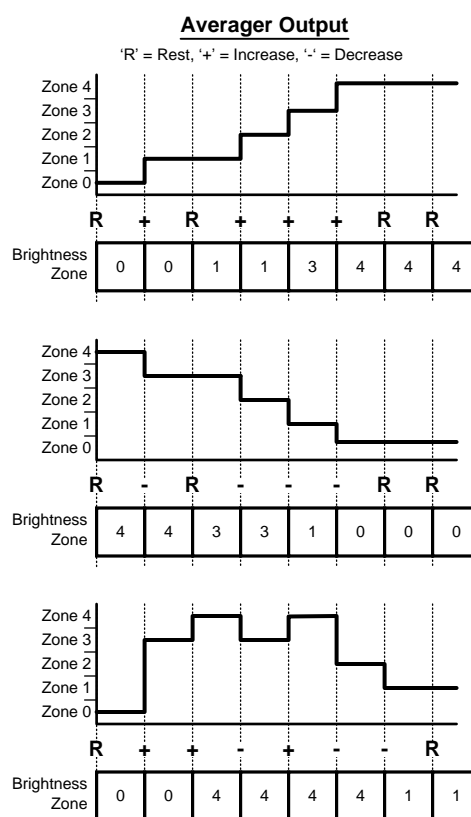

Figure 36. Brightness Zone Change Examples
5. To increase the brightness zone, the Averager output must have increased for at least 2 averaging periods ('+' to '+' or '+' to 'Rest' in Figure 36).
6. To decrease the brightness zone, the Averager output must have decreased for at least 2 averaging periods ('-' to '-' or '-' to 'Rest' in Figure 36).
In the case of two consecutive increases or decreases in the Averager output, the LM3530 will transition to zone equal to the last averager output (Figure 36).